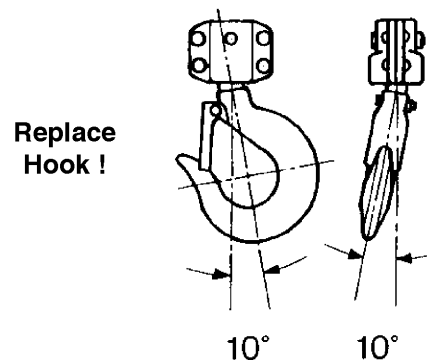

Figure 2
8. If the vertical angle at the neck of the bottom or top hook reaches 10°, replace the hook (see Figure 2).